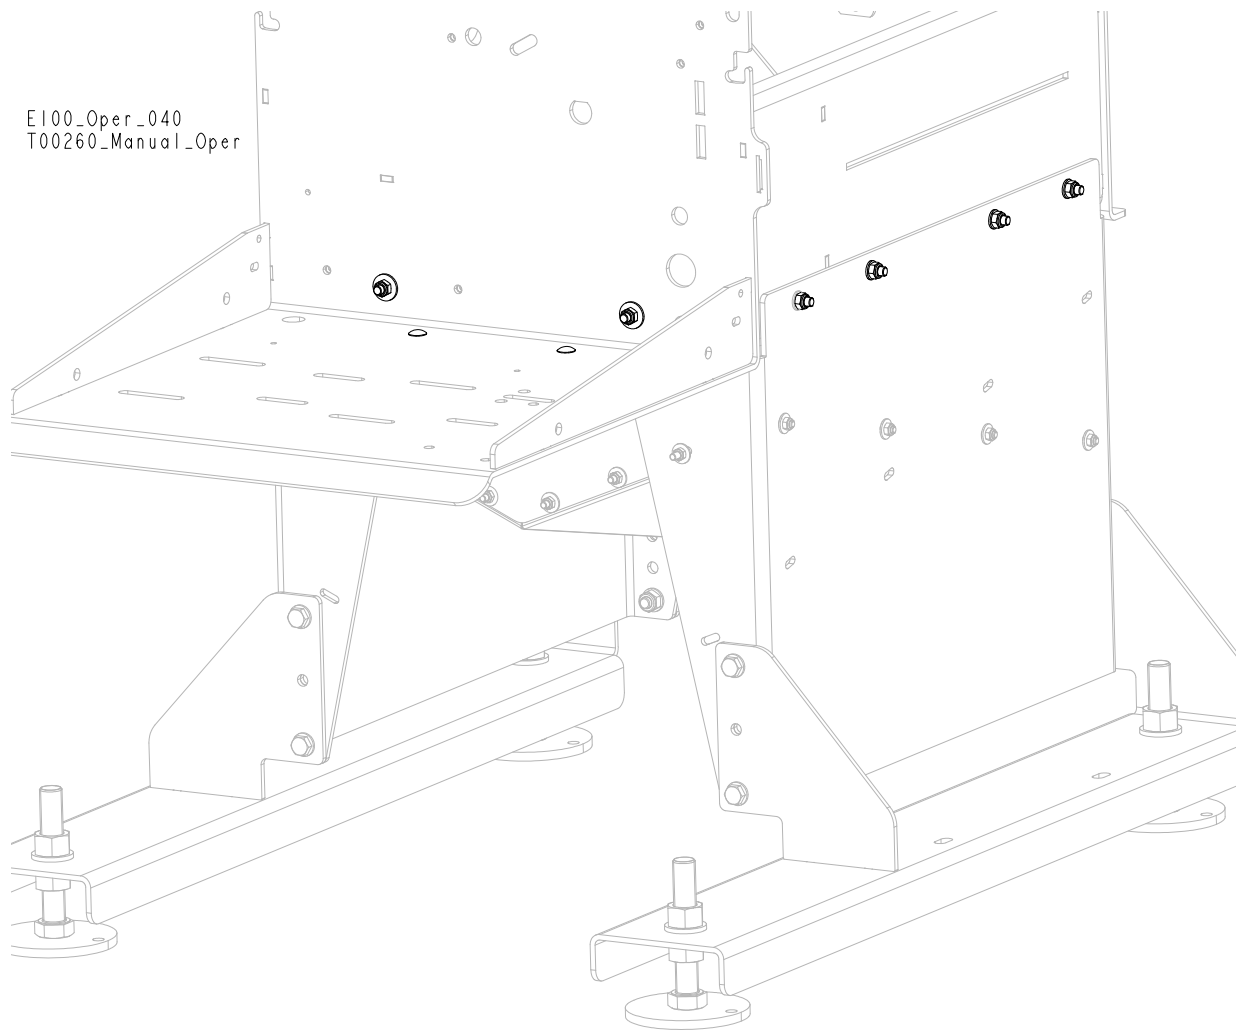

FIG. 3-7
See figure 3-7.
- Place a flat bar (maximum height: 30 mm, minimum length: 500mm) against each blade and measure the distance between the blades as shown below. The distances A and B should be equal. If they are different, adjust the movable blade in the horizontal plane using the rods shown in Figure 3-7. To do this, loosen the nuts (C) on the rod, turn the rods and tighten the nuts.(C).